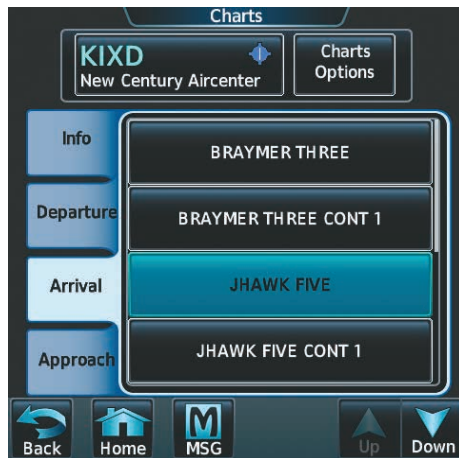
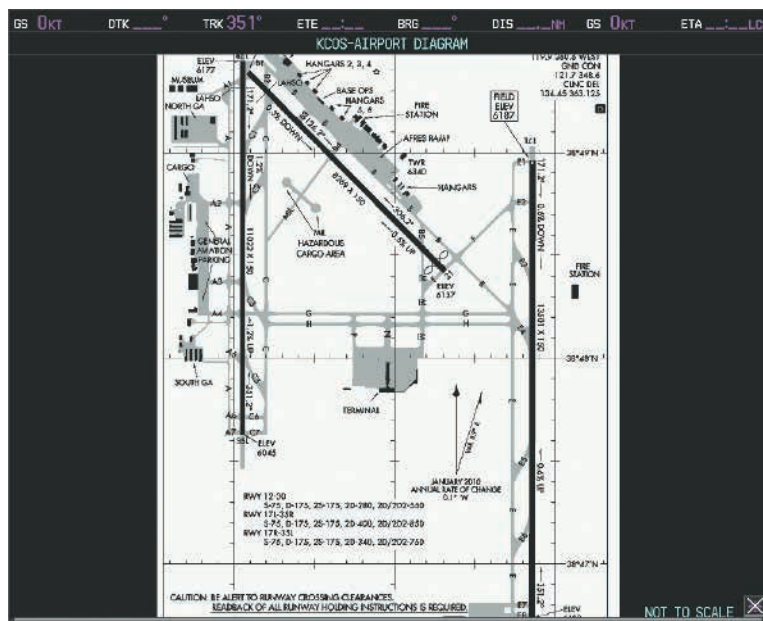

Figure 8-21 Airport Diagram Selection
Figure 8-24 Airport Chart for Selected Airport
- 3) Touch the **Info** Tab to display the airport information selection buttons for the selected airport (Figure 8-21).
- 3) Touch the **Airport Chart** Button. The **Info** Tab selections are displayed on the Touchscreen Controller (Figure 8-21) and the Airport Diagram is displayed on the MFD Display (Figure 8-24).